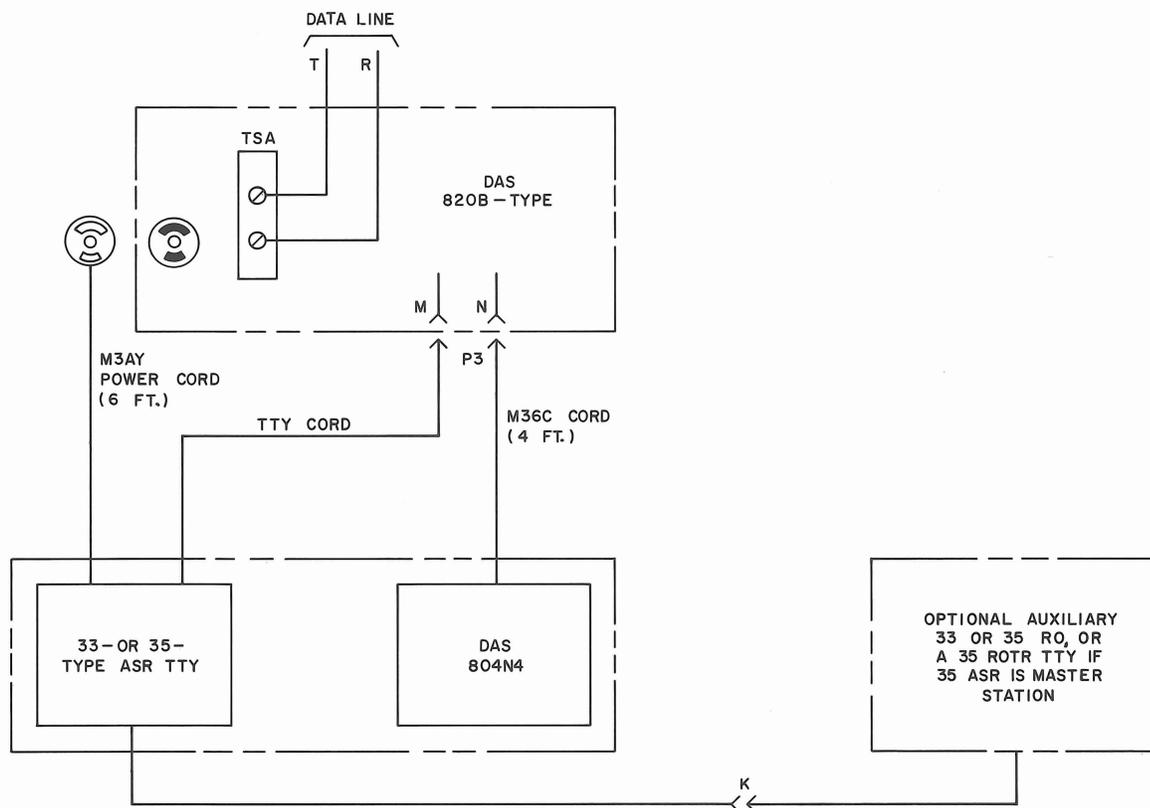
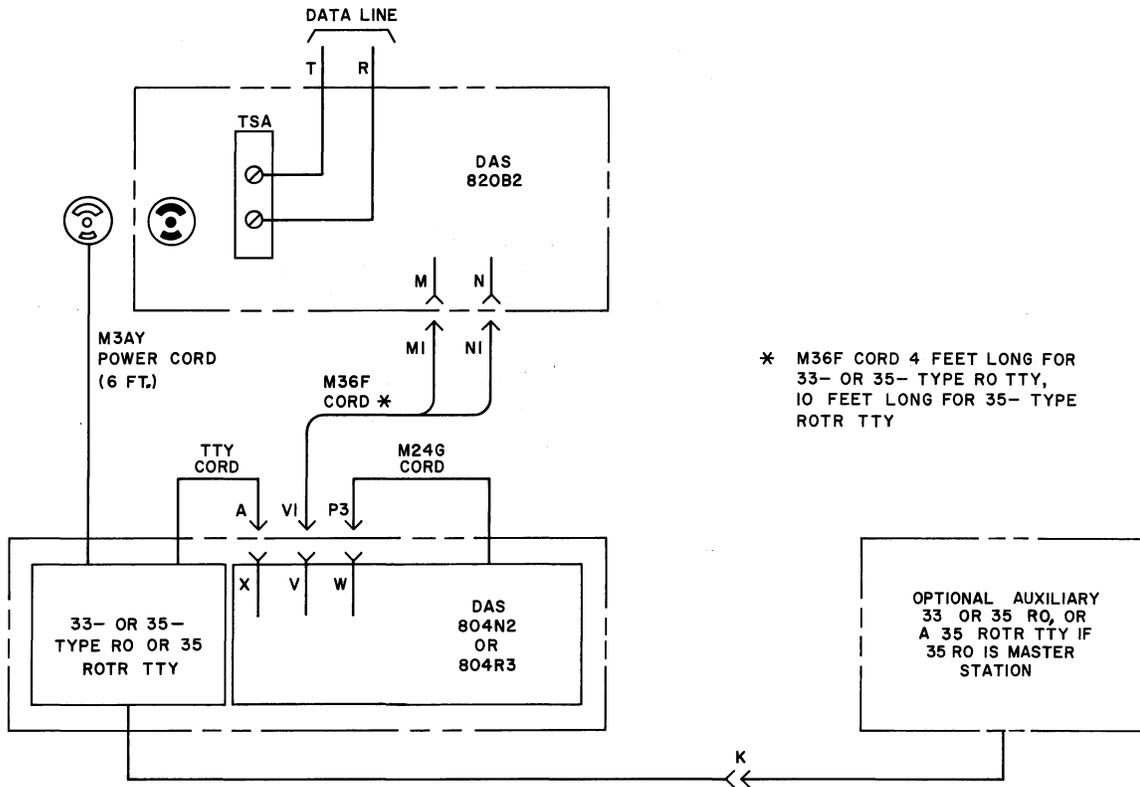

Fig. 5 — Interconnections For 33- and/or 35-Type ASR Stations
Fig. 6 — Interconnections For 33- and/or 35-Type RO Stations
3.01 The interconnections of the 33- and/or 35-type TTY stations are shown in Fig. 5 and 6. The figures are shown for primary stations (with or without auxiliary TTY's). Fig. 5 illustrates ASR stations and Fig. 6 illustrates RO stations.